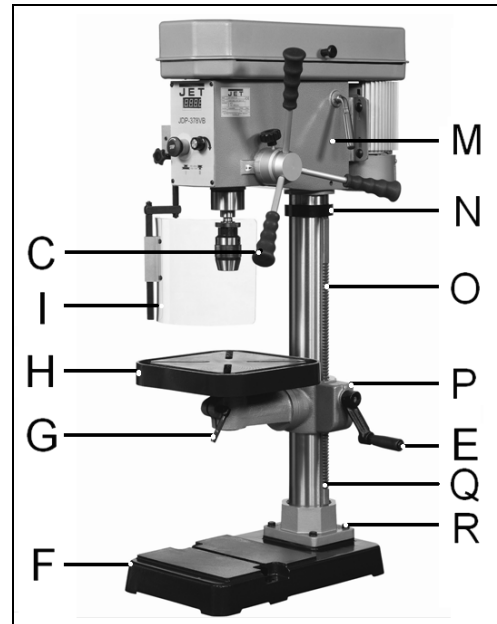

Fig 3
Attach the column assembly (Q, Fig 3) to the base (F) with four hex cap bolts (R), tighten firmly.
Attach the column flange (P, Fig 3) with the rack (O) installed to the column.
Mount the working table (H, Fig 3).
Screw the lock handle (G, Fig 3) into the table support.